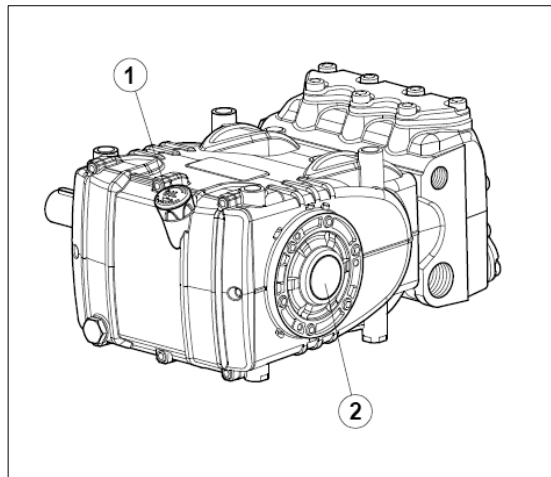

fig. 14
5. The oil level in the pump must be verified using the apposite dipsticks (**position 1 fig. 14**), and exceptionally by means of the oil sight glass (**position 2 fig.14**).